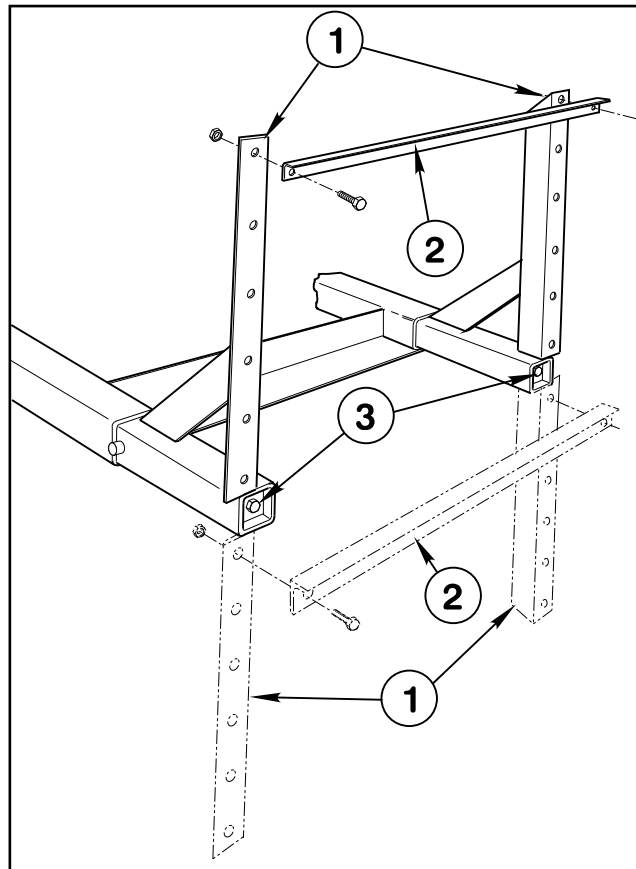

FIG. 5
NOTE: Note the position of the angle member of the Boom Mount Assemblies, in relation to the tube member. They must be positioned as shown, for the mounting of the Cross Support Angle. See FIG. 5.
1. Apply a heavy coating of grease to the tubes of the two Boom Mount Assemblies and insert them into the Vehicle Frame as shown in FIG. 5.